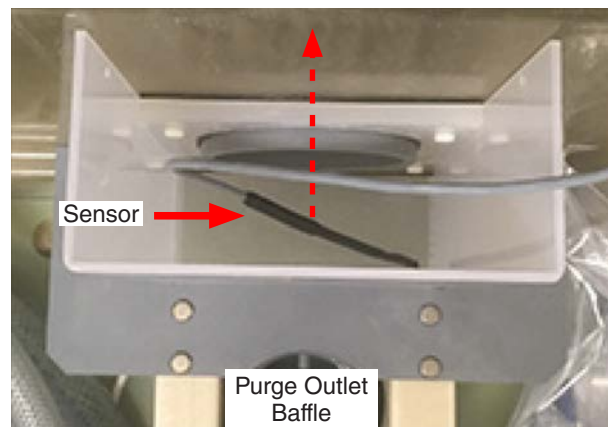

Figure 6.9d: Remove sensor from purge outlet baffle.
- Remove the sensor from the baffle (Figure 6.9d).